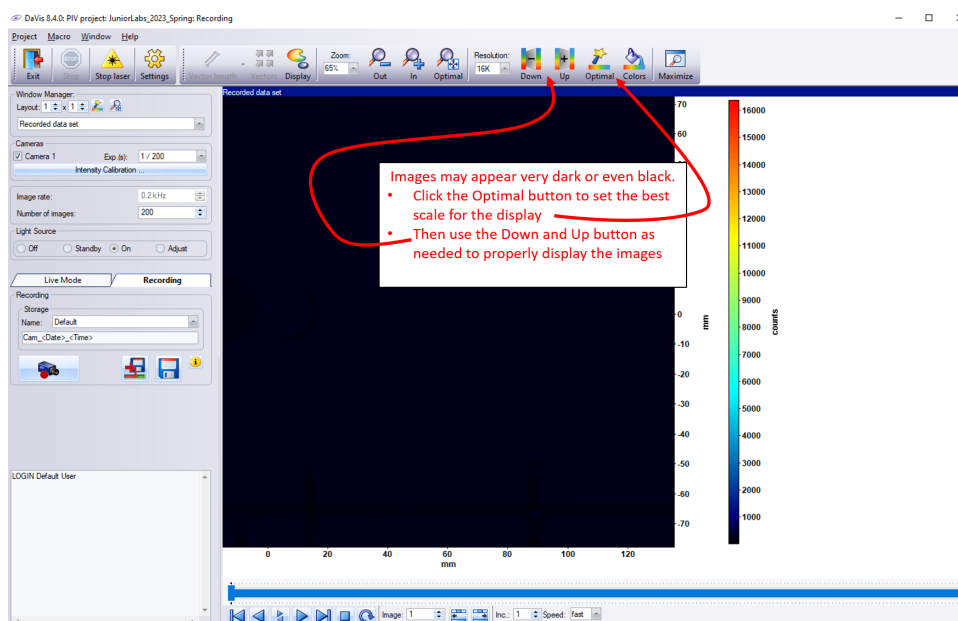

Figure 8: Initial image display and display controls.
- To check the raw images you just acquired, click on the ”Optimal” button (top toolbar), see Figure 8. Feel free to change the colormap by using the ”Colors” button. Usually colormaps 1 and 2 are good choices for looking at the images. Adjust the range of the colorbar under the ”Resolution” drop down menu. The option ”0-max” will make the colormap span from zero to max value of the displayed data. The option ”+-max” will make the colormap span from min to max value of the displayed data. See which fits better to the displayed maps or images.